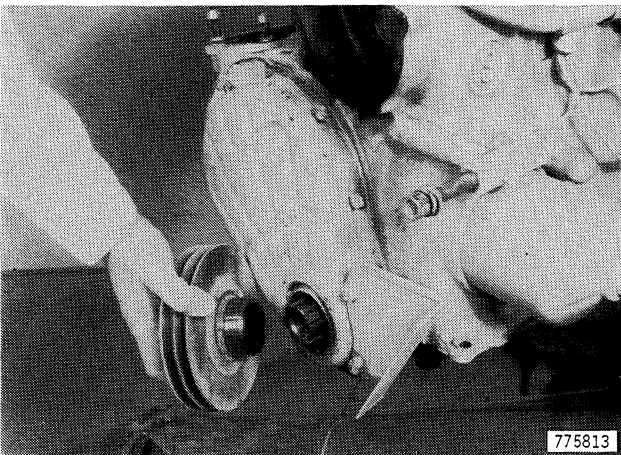

Figure 67
2. Remove the crankshaft pulley, Figure 67.